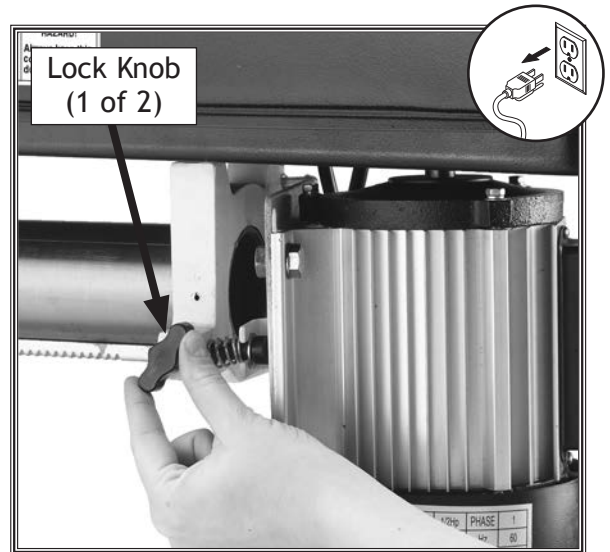

Figure 27. Loosening lock knob.
2. Loosen the belt tension lock knobs on both sides of the headstock (see Figure 27), so the motor is free to move.